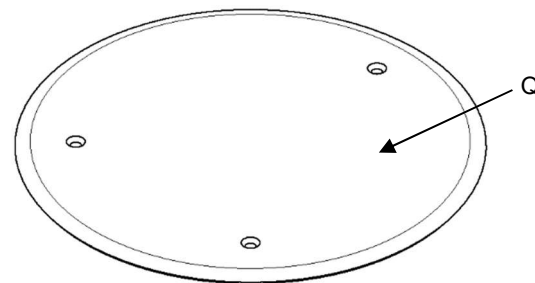

Fig. 11
3. Install abandonment plate (Q) Fig. 11. Coat screws with electrical type of RTV silicone sealant to ensure water tightness before installing. Torque screws (S) to 4-6 in-lbs (0,5-0,7 Nm). Apply a ¼ [6,4mm] thick continuous bead of electrical type of RTV silicone sealant fully around the perimeter on the underside of the abandonment plate to ensure water tightness.